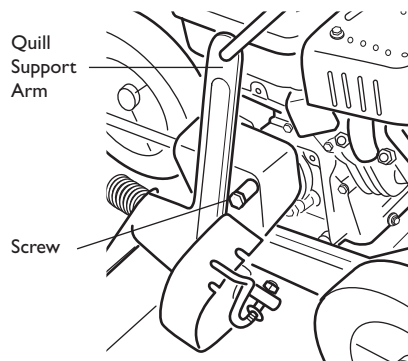

Figure 6
8. When the clutch lever is in the NEUTRAL position, the quill support arm must be close to the screw. (See Figure 6)